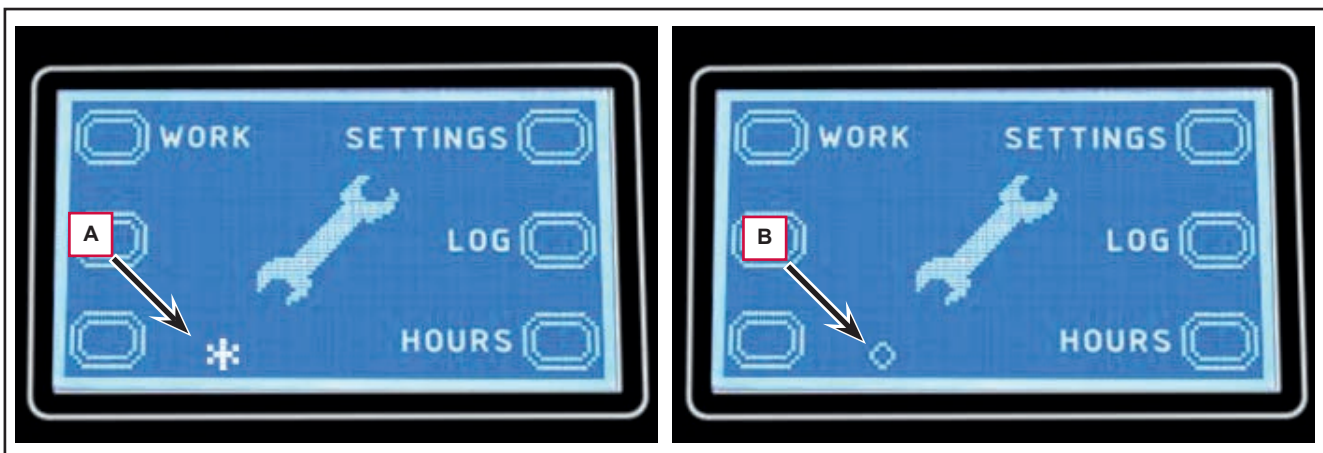

Figure 11
3. With the solution tank more than half full, the symbol displayed is (A, Figure 11).
4. With the solution tank less than half full, the symbol displayed is (B).